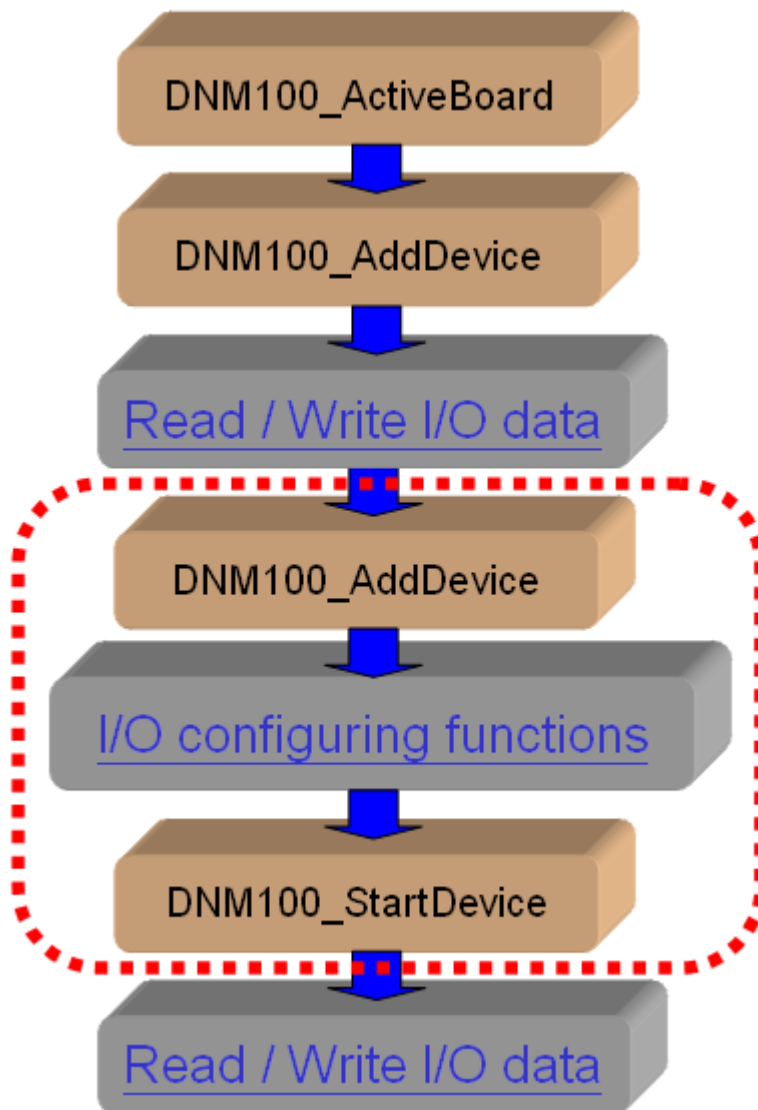
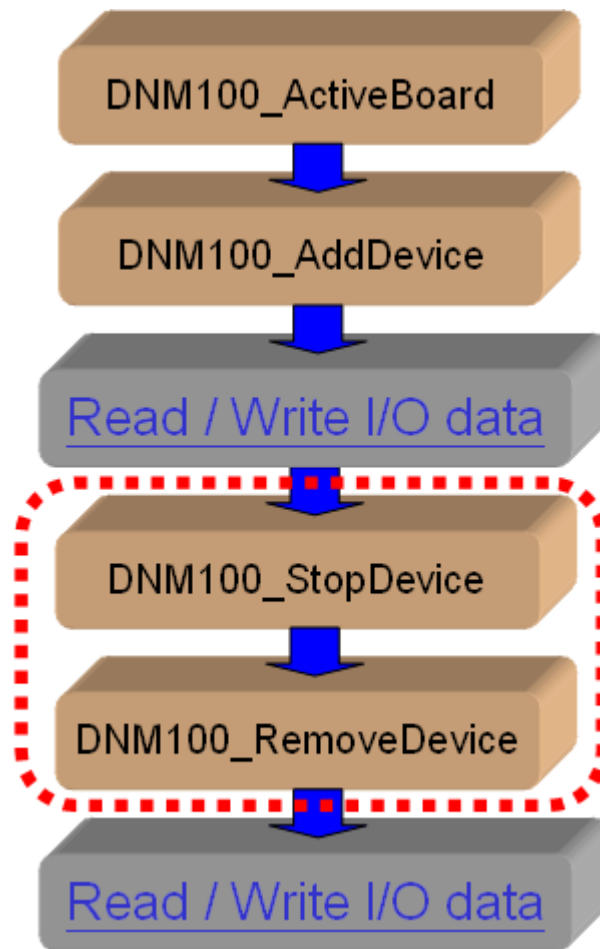

Figure 3.6 On-line Add Device Diagram
Figure 3.7 On-line Remove Device Diagram
The PISO-DNM100(U) provides the on-line adding/removing slave device functions. The users need not to break the communication between original slaves device when adding or removing the slave devices. The users can follow the steps to achieve this function. The steps are shown in Figure 3.6 and Figure 3.7.